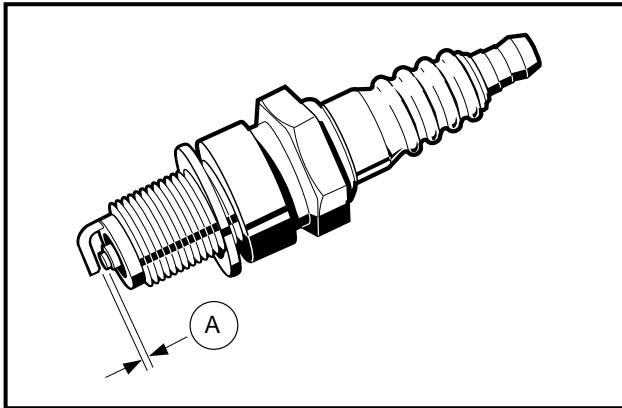

Figure 13-5 Spark Plug
Examine the plug (**Figure 13-5, Page 13-7**). The deposits on the plug base and electrode are an indication of the correct heat range and efficiency as well as a guide to the general condition of the engine, fuel and air mixture and ignition system. If all of the above conditions are proper, the spark plug should be a light brown color. There should be no bridging between the electrode and base. The electrode should not be eroded. Black color, excessive carbon, and/or a wet plug indicate a too rich condition. White, burned or melted electrodes indicate a too lean condition or pre-ignition. Oily deposits on the plug electrode are an indication of worn rings, valve guides, cylinder wall, etc. Also examine the spark plug wire. Remove rubber boot and inspect internal spring for damage. Inspect spark plug wire for damage and be sure spring coil is securely attached to spark plug. **See following WARNING.**
2. Use a wire type gauge. Bend the outside or ground electrode so only a slight drag on the gauge is felt when passing it between the electrode. Never make an adjustment by bending the center electrode. Set gap (A) to 0.027 to 0.031 in. (0.69 to 0.79 mm) (**Figure 13-5, Page 13-7**).